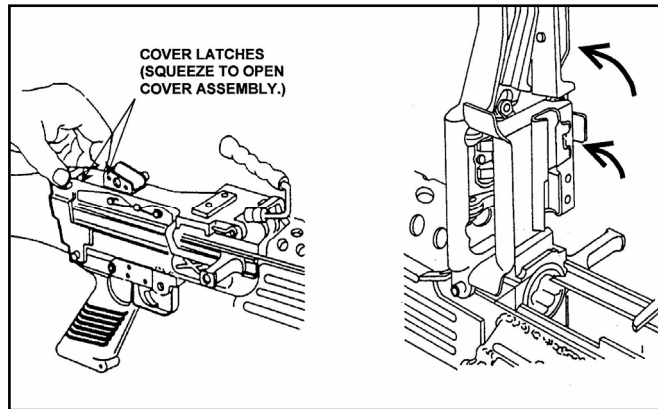

Figure 071-312-4027-2. Checking the of feed tray, receiver, and chamber area
5. Attach the ammunition box with linked 5.56-mm ammunition to the underside of the receiver. To do so, align the box latch with the dovetail on the receiver (figure 071-312-4027-3). Pull outward on the ammunition box to make sure the aligning box latch engages.